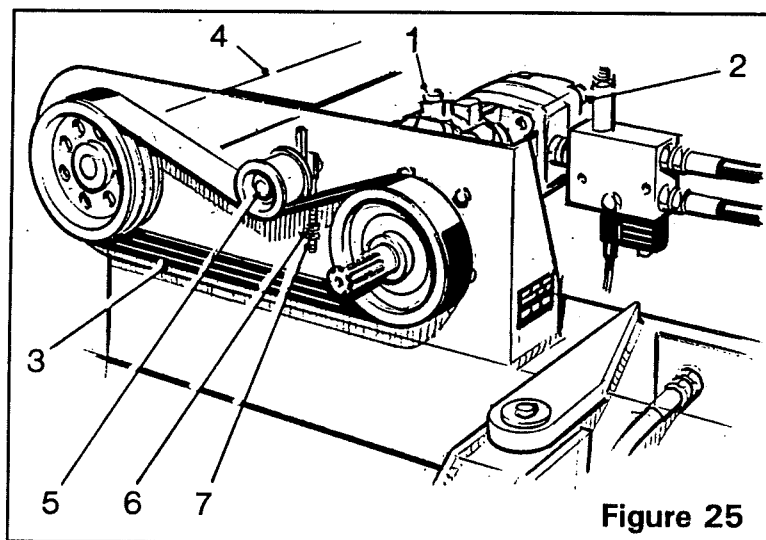

Figure 25
The main drive is taken from the tractor PTO to a centrally mounted gearbox (item 1, figure 25) by a universal coupling. This shaft should be checked occasionally to ensure that the inner and outer tubes can slide freely, binding of the tubes will cause premature failure of the gearbox input bearings.
The hydraulic pump (item 2, figure 25) is driven from the gearbox (item 1, figure 25) and provides the necessary hydraulic oil pressure to drive the roller separator unit. The main drive is then taken from the gearbox input shaft via two triple pulleys and triple vee belt (item 3, figure 25) to the main drive shaft (item 4, figure 25). Besides providing a drive, the vee belts act as a slip clutch. It is therefore important that the belt tension is sufficient to drive normally without slipping, but not so great that the belt cannot slip when the drive is obstructed. To adjust the vee belt, loosen the retaining bolt (item 5, figure 25) and the locknut (item 6, figure 25). Turn the adjusting nut (item 7, figure 25) until the correct tension is achieved. Finally, retighten all bolts.
The main drive shaft (item 4, figure 25) transfers the the drive to the gearbox mounted on the RH side of the harvester. The gearbox oil level should be checked regularly and topped up if necessary with **EP90 Gear Oil**. From the gearbox, the drive is transferred forwards to drive the agitators and backwards to drive the digger web and separator unit feed web.